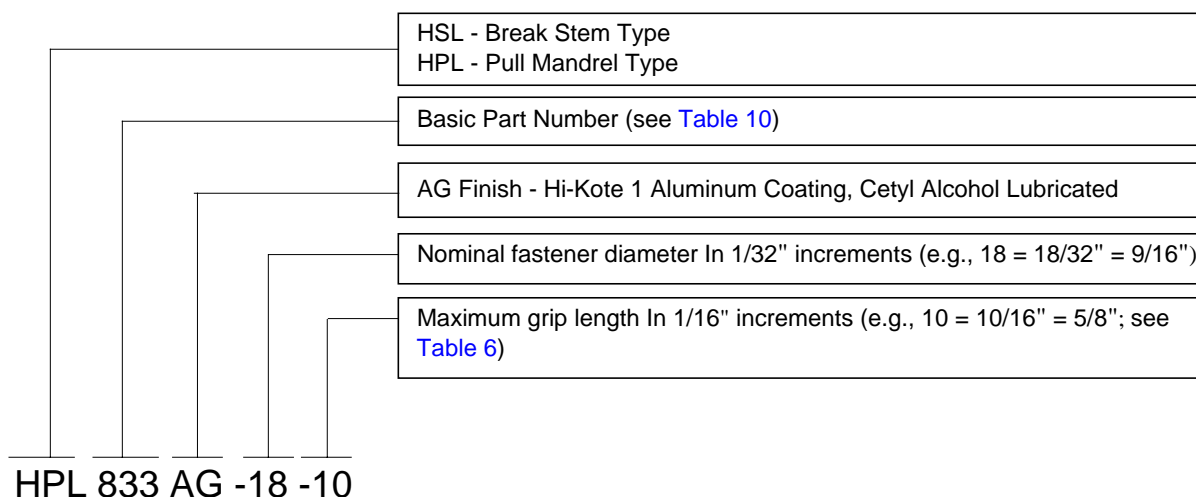

Figure 1 - Pull-type Hi-Lite ST Part Number Breakdown
- 4.1.1 Pull-type Hi-Lite ST pins as specified on the engineering drawing and referenced in Table 10. Refer to Figure 1 for a pin part number breakdown.